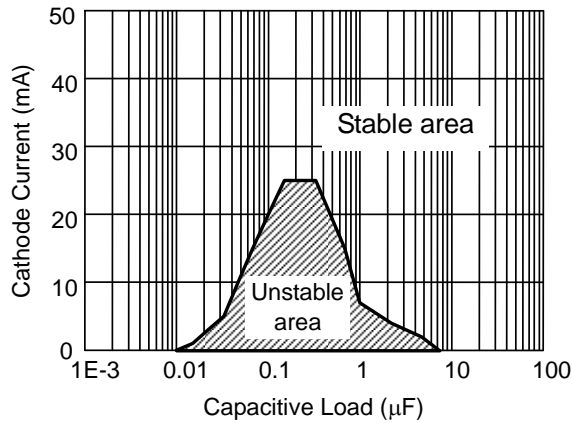

Fig. 1 Stability Boundary Conditions
- Note: 1. For the shunt regulators like TL431, the stability of capacitive load should be taken into account carefully. As shown in figure1, the areas within the curves represent the conditions that may cause the V_{ADJ} to oscillate.